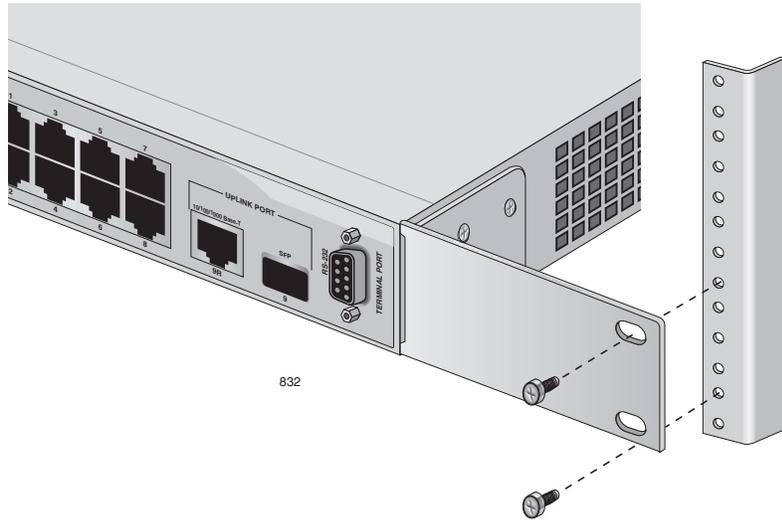

Figure 8. Mounting the Switch on the Rack
4. Mount the switch on a 19-inch rack using the four large screws included, as shown in Figure 8